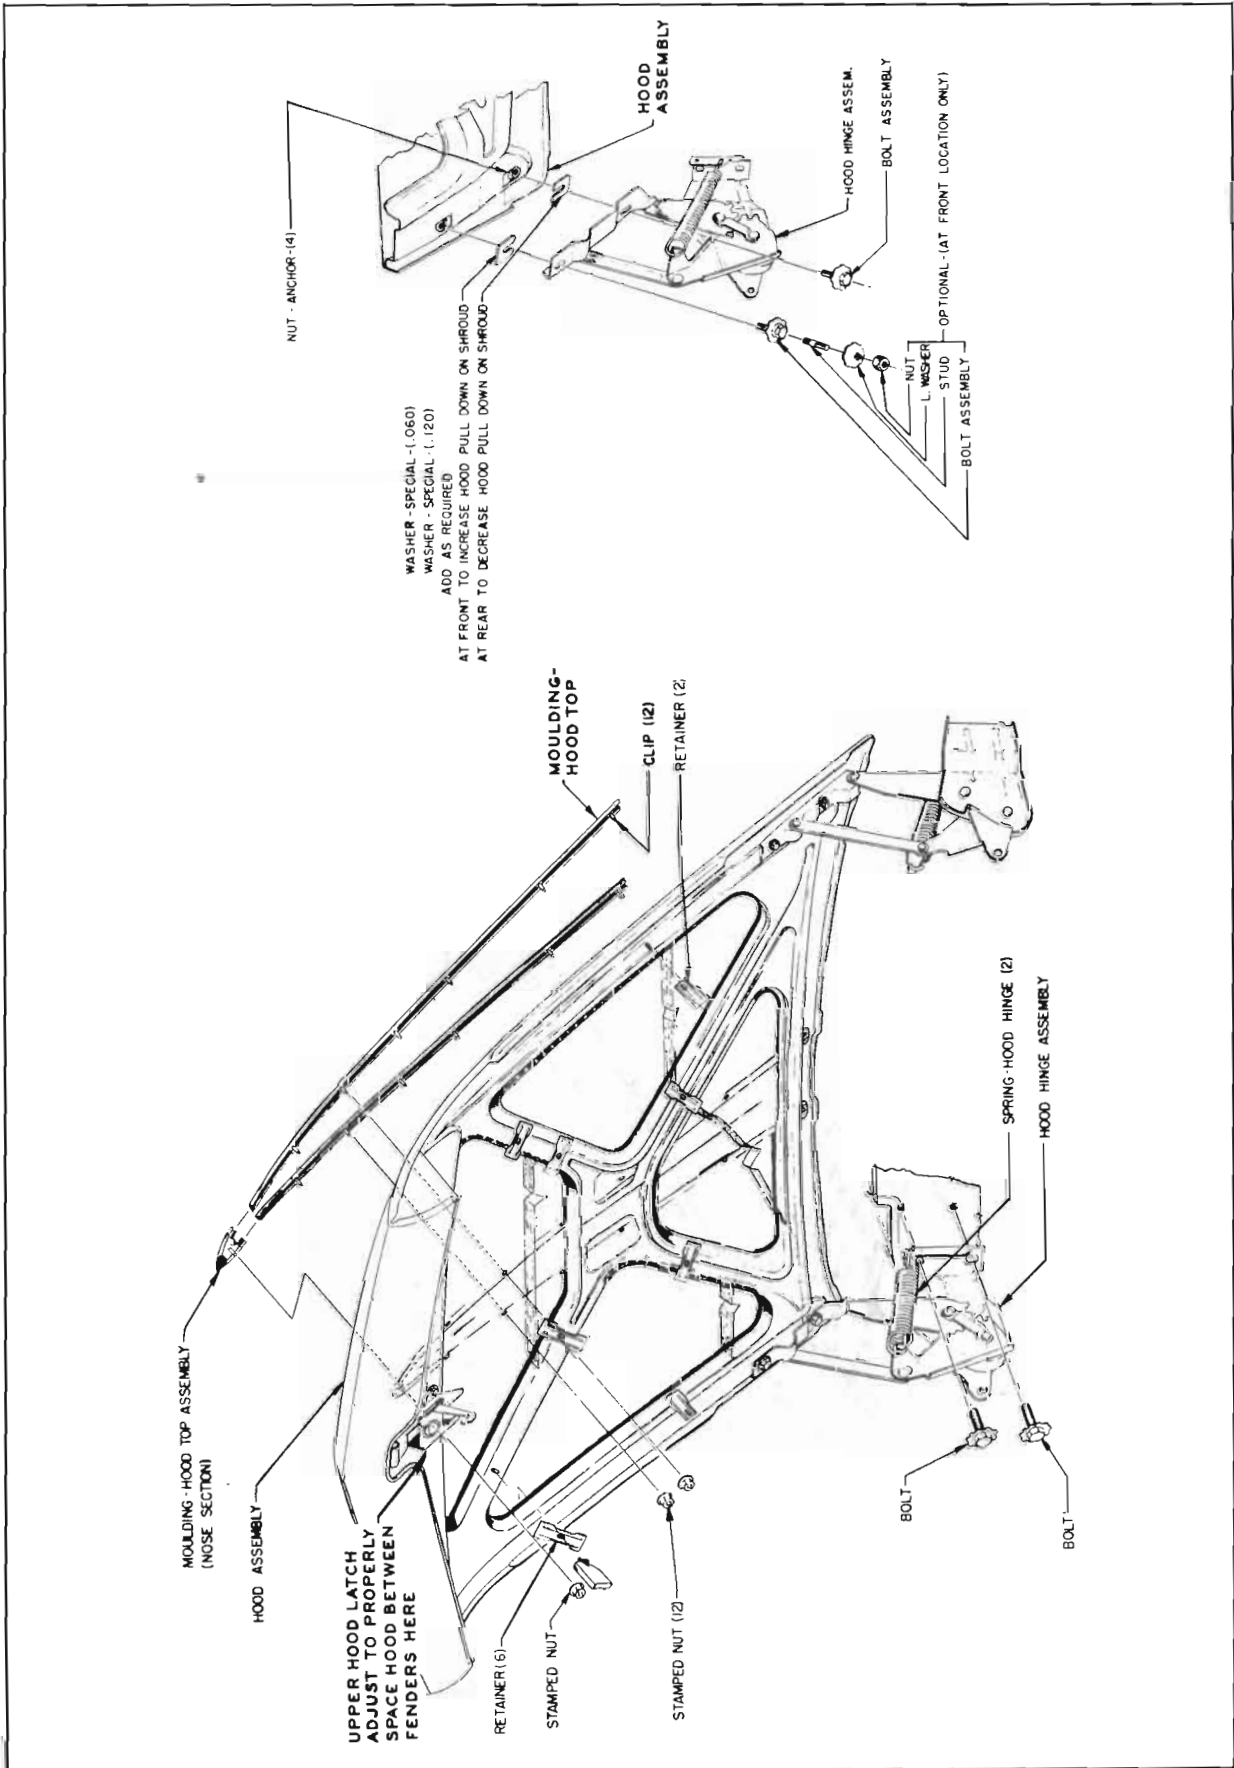

Figure 12-7—Hood and Hinge Assembly
The rear of the hood assembly is attached to the body cowl and fender on each side by hinge assemblies which permit the front of the hood to be raised. A heavy coil spring connected between each hinge assembly assists in raising the hood and holds it in the open position. See Figure 12-7.
To prevent hood panel flutter, the rear end of hood panel must have firm contact with the rubber bumpers and lacing attached to cowl ledge. The hood may be raised or lowered by adjustment at hinges. See figure 12-7.
hood. Removing or adding washers will shift rear of hood up or down with respect to hinge. See Figure 12-7.
2. *Rear Tension.* Too little tension is indicated if the rear hood area flutters. To increase tension, add special washers between the hood and the hinges at the front bolts. See Figure 12-7.
Too much tension is indicated if the rear area of the hood bends as it is closed. To decrease tension, add special washers between the hood and the hinges at the rear bolts. See Figure 12-7.
When hood to fender spacing is out of adjustment, minor alignment can be made by adjusting the upper hood latch by means of slotted holes to space the hood properly between the fenders. See Figure 12-7.